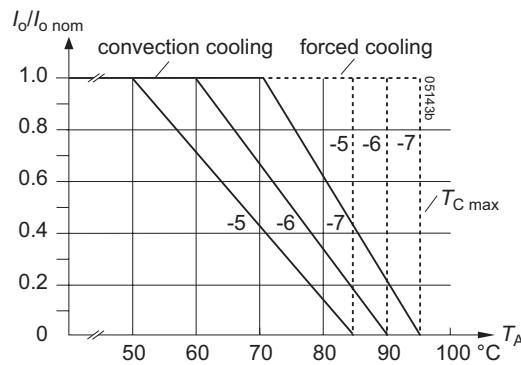

Fig. 12
**Notes:** Sufficient forced cooling or an additional heat sink (applied to -7 or -9) models allows  $T_A$  to be higher than 71 °C (e.g., 85 °C), if  $T_{C\max}$  is not exceeded. Details are specified in fig. 12, including -5 and -6 models.